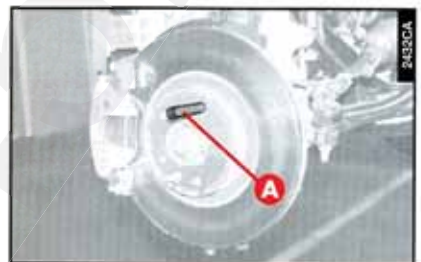

fig. 9
- Tighten the pin (A-fig. 9) in one of the fastening bolt holes.
- Remove the centering pin (A-fig. 9) and tighten the last bolt.